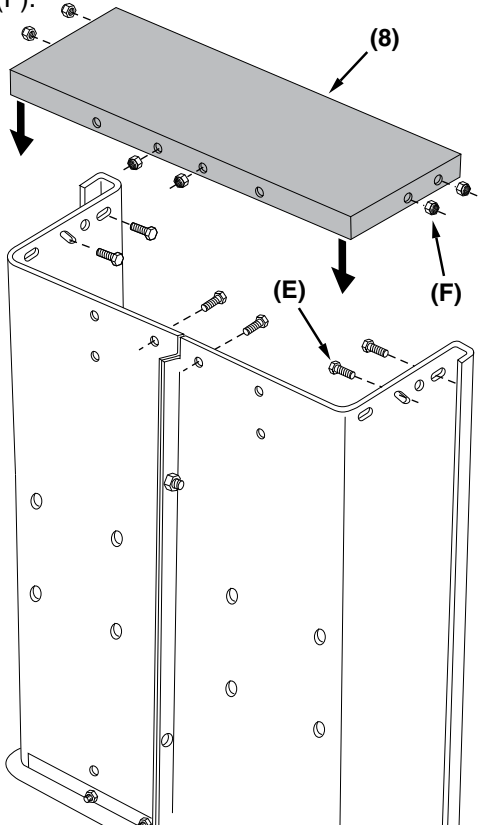

Figure 8
STEP 9 (SEE FIGURE 8): Attach the front panel (8) to the front of the cart bed (on the outside) using six 1/4" x 3/4" hex bolts (E) and 1/4" nylock nuts (F).